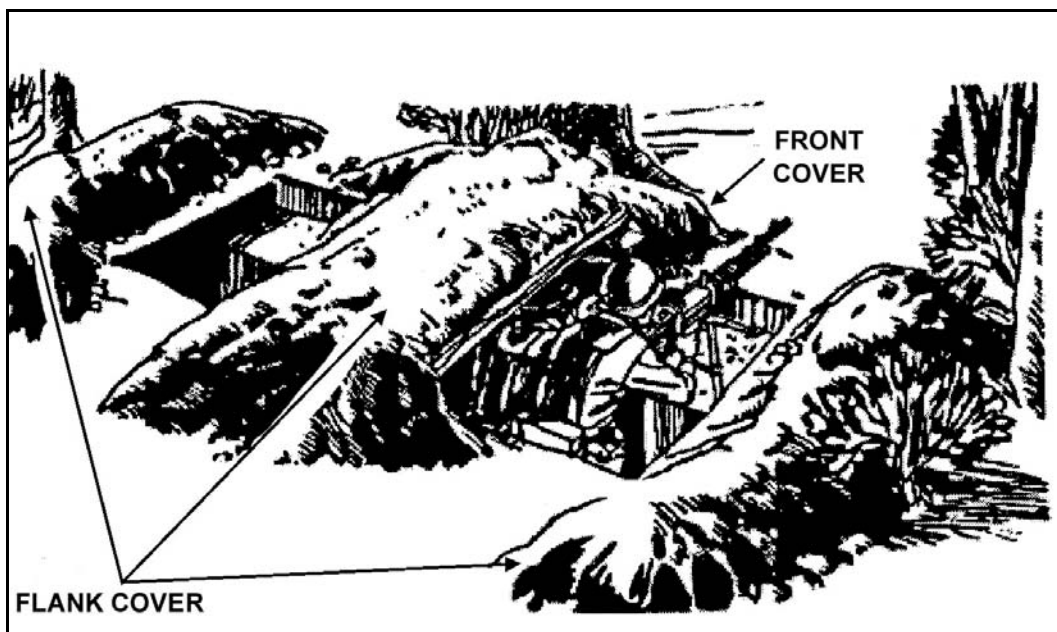

Figure D-15. Machine gun position.
a. **M2 Position.** The primary sector of fire is usually to the oblique so the gun can fire across the platoon's front. The tripod is used on the side covering the primary sector of fire. The bipod legs are used on the side covering the secondary sector of fire. When changing from primary to secondary sectors, the gunner moves only the machine gun. Occasionally a sector of fire that allows firing directly to the front is assigned, but this can reduce the frontal cover for the crew when firing to the oblique (Figure D-15, page D-18).
(4) When there is a three-soldier crew for a machine gun, the ammunition bearer digs a one-soldier fighting position to the flank that is connected to the gun position by a crawl trench. From his position, the ammunition bearer can see and fire to the front and to the oblique. The ammunition bearer usually is on the same side as the FPL or PDF. This allows him to see and fire his rifle into the machine gun's secondary sector and to see the gunner and assistant gunner.
b. **MK 19.** The MK19 position is constructed similar to the machine gun position (Figure D-15) and is constructed after the weapon is positioned so that it is oriented on the center of the assigned sector of fire. The tripod legs are outlined to ensure the firing platform